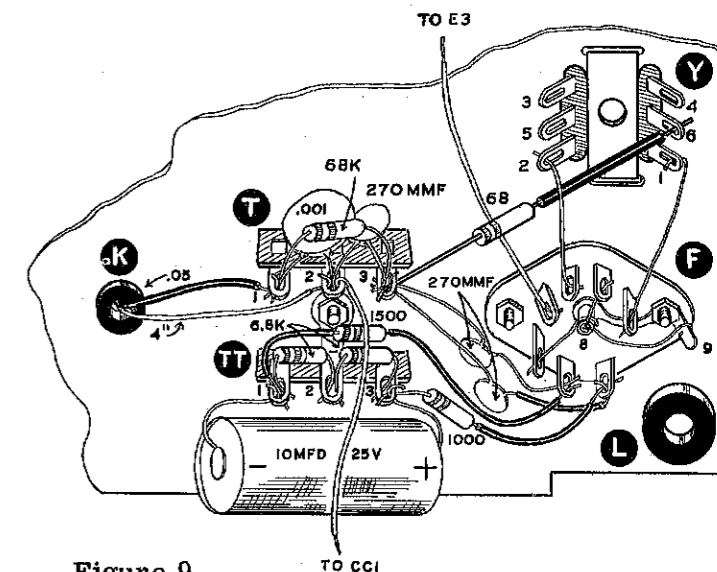

Figure 9
- (✓) Connect a 270  $\mu$ f disc condenser from socket F2 (NS) to terminal strip T3 (NS). Dress close to chassis. See Figure 9.
- (✓) Connect a 270  $\mu$ f disc condenser from socket F1 (NS) (use sleeving) to terminal strip T3 (NS). Dress close to chassis.
- (✓) Run a 1500  $\Omega$  resistor (brown-green-red) from socket F2 (S) (2) (use sleeving) to terminal strip TT1 (NS) (use sleeving). Dress close to chassis between strip T and TT.
- (✓) Run a 1000  $\Omega$  resistor (brown-black-red) from socket F1 (S) (2) (use sleeving) to terminal strip TT3 (NS).
- (✓) Connect a 6.8 K $\Omega$  resistor (blue-gray-red) from terminal strip TT2 (NS) to TT3 (NS). Dress between T and TT as shown in Figure 9 and Pictorial 1.
- (✓) Similarly, connect a 6.8 K $\Omega$  resistor (blue-gray-red) from terminal strip TT1 (NS) to TT2 (S) (2). Dress as before.
- (✓) Install a 10  $\mu$ f 25 volt electrolytic condenser from terminal strip TT1 (NS) to TT3 (S) (3). The positive (+) end connects to TT3. Dress tight to terminal strip TT and chassis so that the condenser clears the bottom edge of the chassis. Keep the end connected to TT1 away from ground lug G9.
- (✓) Install a 270  $\mu$ f disc condenser from terminal strip T3 (NS) to T2 (NS).
- (✓) Run a .001  $\mu$ f disc condenser from terminal strip T1 (NS) to T2 (NS).
- ( ) Cut a wire to a length of 4". Strip and tin both ends and connect one end to terminal strip T2 (NS). Pass the free end through grommet K and leave free.
- ( ) In the same fashion, prepare a wire 2 1/4" long and connect one end to terminal strip T2 (S) (4). Dress the free end straight up or in a direction where it will be out of the way.
- (✓) Connect a 68 K $\Omega$  resistor (blue-gray-orange) from terminal strip T3 (S) (5) to T1 (NS).
- (✓) Cut one lead of a .05  $\mu$ f 400 volt tubular condenser to a length of 1 1/2". Slip sleeving over this end and pass through grommet K from the top of the chassis. Connect the end appearing through K at the bottom to terminal strip T1 (NS). On top of the chassis, bend the condenser body over toward socket F.
- ( ) In the same fashion, cut one lead of the remaining .05  $\mu$ f 400 volt tubular condenser to a length of 1 1/2", install sleeving and pass through grommet K from the top of the chassis. Connect the end appearing through K at the chassis bottom to socket G5 (NS). On top of the chassis, bend the body of the condenser toward socket B.